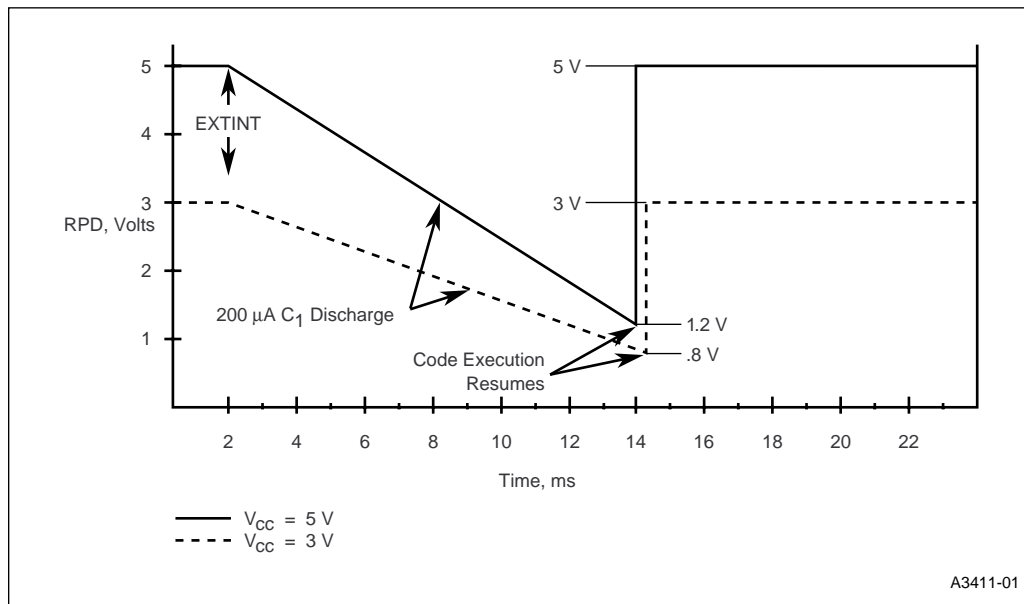

Figure 14-4. Typical Voltage on the RPD Pin While Exiting Powerdown
At this time, a Schmitt-triggered detection circuit prompted by the switching voltage levels strongly drives a logic one, quickly pulling the RPD pin back up to V_{CC} (see recovery time in Figure 14-4). The time constant (RC) follows an exponential charging curve. However, since there is no external resistor on the RPD pin, the time constant goes to zero and the recovery time is instantaneous.